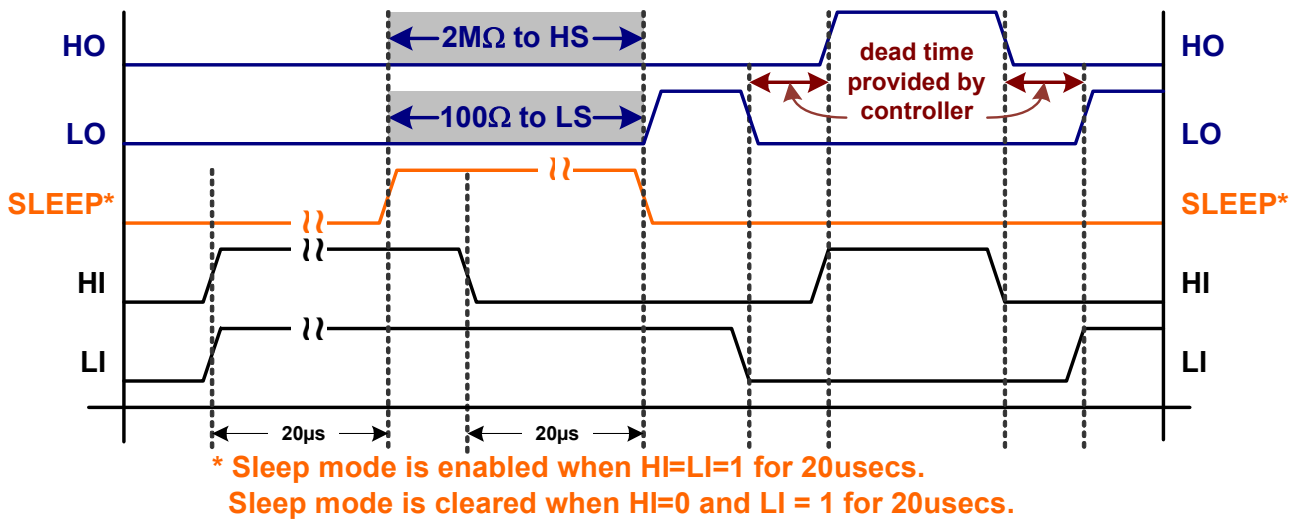

FIGURE 4. SLEEP MODE ENABLED OR CLEARED BY HI AND LI INPUTS
14. When HI and LI are on simultaneously, HO and LO are never on simultaneously. This feature is intended to initiate sleep. This feature cannot be used to prevent shoot-through for normal alternating switching between LI and HI. Dead time must be provided when HI = 0 -> LI = 1, or LI = 0 -> HI = 1. See Timing Diagrams (Figure 4).